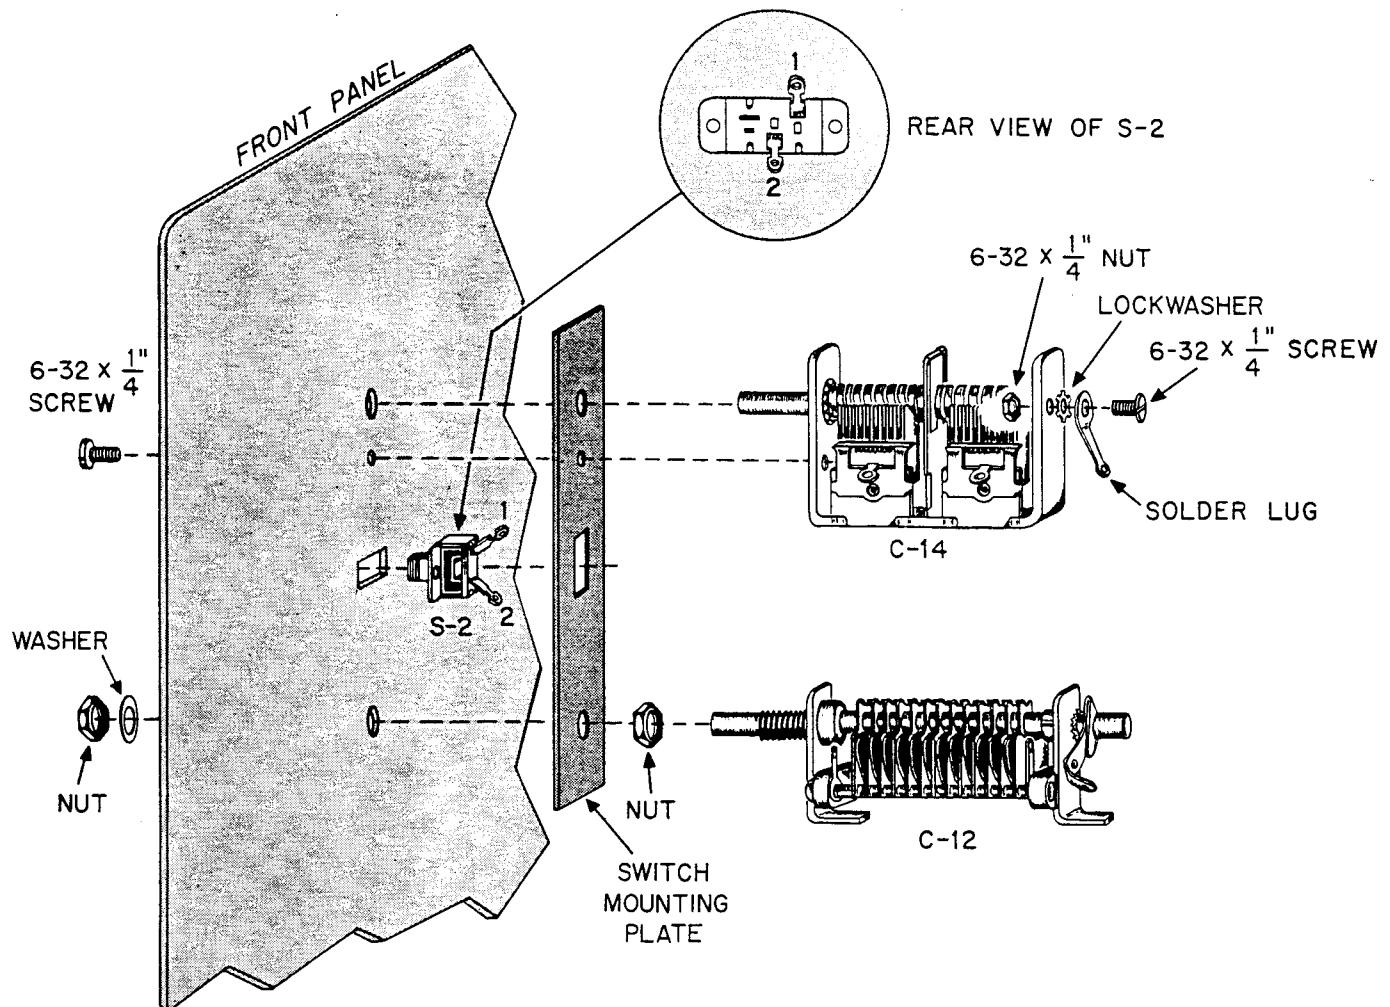

FIGURE 7. HOW TO MOUNT C-14, S-2 AND C-12
- Study Figure 7. Mount C-14, C-12, S-2 and the switch mounting plate as shown in Figure 7. Note that the terminals of S-2 are positioned toward the center of the chassis.
- Mount a solder lug on the back of C-14 using a lockwasher, one $6-32 \times \frac{1}{4}$ " screw, and a matching nut. See Figure 7 for the location.